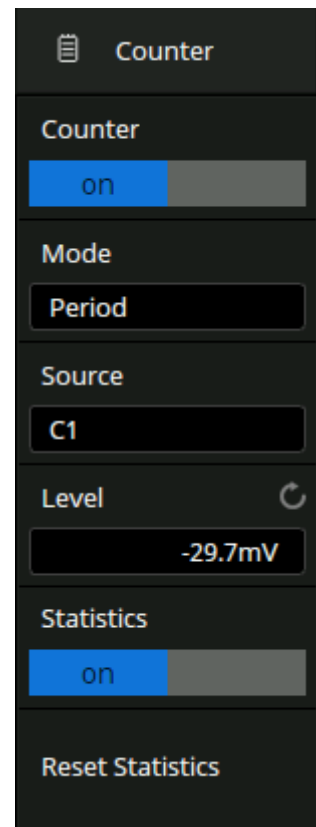

Figure 18.1 Counter Menu
- The **Counter** menu shown in figure 18.1 will be displayed.